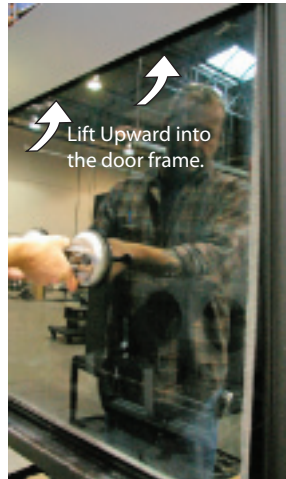

Figure 17c. (Lift the door upward)
**Step 3.** Hold the Glass Removal Tools firmly, Lift the door upward, into the top door frame, Figure 17c. Then pull the bottom of the glass door downward, and tilt outward from the bottom fireplace door frame. Figure 17d. NOTE: Read ALL the instruction supplied with the tool, and follow the associated operating procedures.